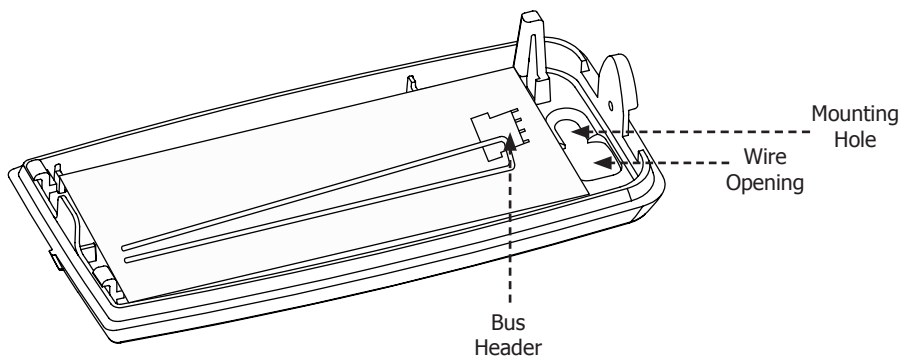

Figure 2: Mounting the Receiver
2. Connect the receiver to the panel keypad bus using the supplied 4-wire harness. Route the wires through the opening in the back of the housing. See Figure 2.
3. Place one screw into the mounting hole location as shown in Figure 2 or use the optional double-sided tape and secure the housing to the surface.